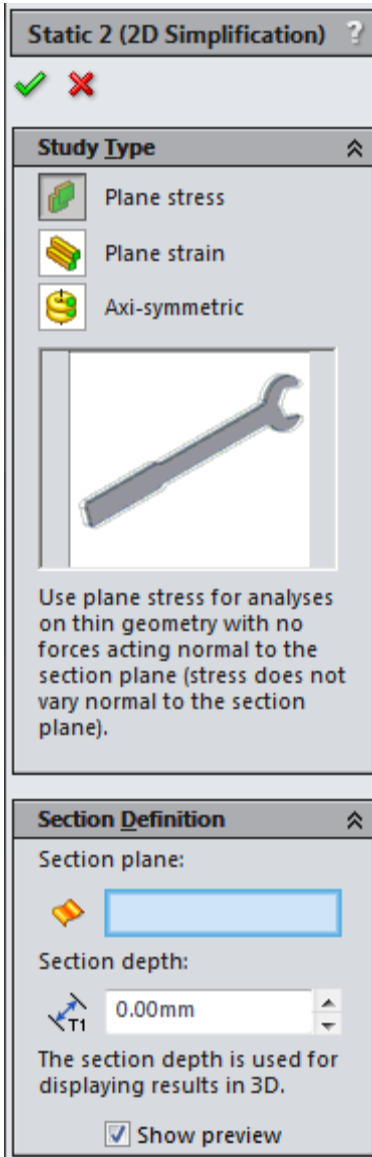

Figure 1. Meshing Drop-down Buttons.
5. Create the Finite Element mesh. Select the type of mesh to be created from the meshing drop-down buttons (see Figure 1). In the Mesh dialog box, input the size or number of elements and select the objects to be meshed. To get an idea of how big the elements will be, press the *Boundary Nodes* button in the *Preview* panel at the bottom of the meshing dialog box. If the element size is satisfactory, press “OK” to accept the mesh choices.